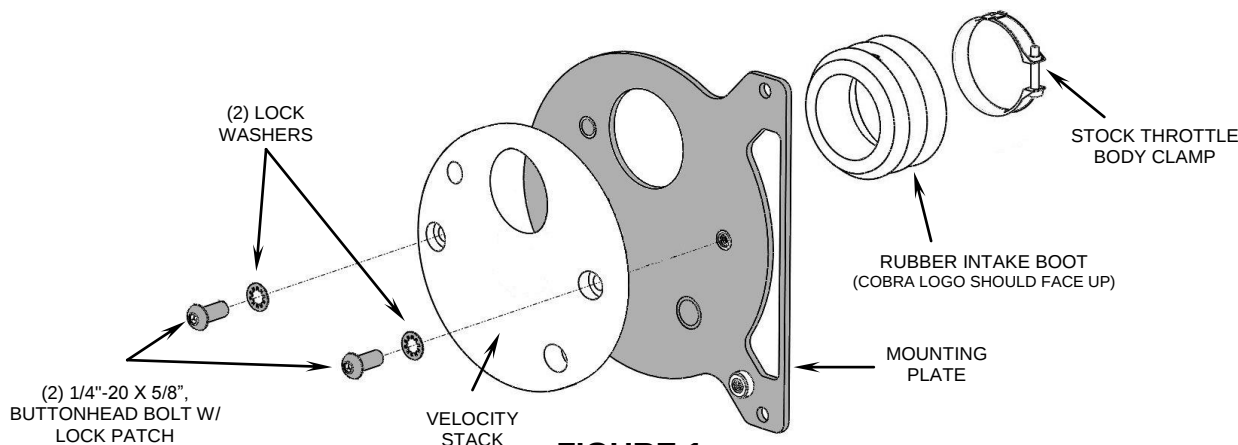

FIGURE 1
2. Remove the (2) bolts that secure the stock air cleaner to the cylinder heads; these bolts and the bushings will not be reused.
5. Using the (2) supplied 1/4"-20 X 5/8" buttonhead bolts and lock washers, assemble the velocity stack, mounting plate and rubber intake boot in the order shown in Figure 1. NOTE: The rubber boot lip needs to be sandwiched between the velocity stack and the mounting plate.
6. Remove the throttle body hose clamp from stock boot and slide it onto the supplied rubber intake boot; position it as shown in Figure 1.